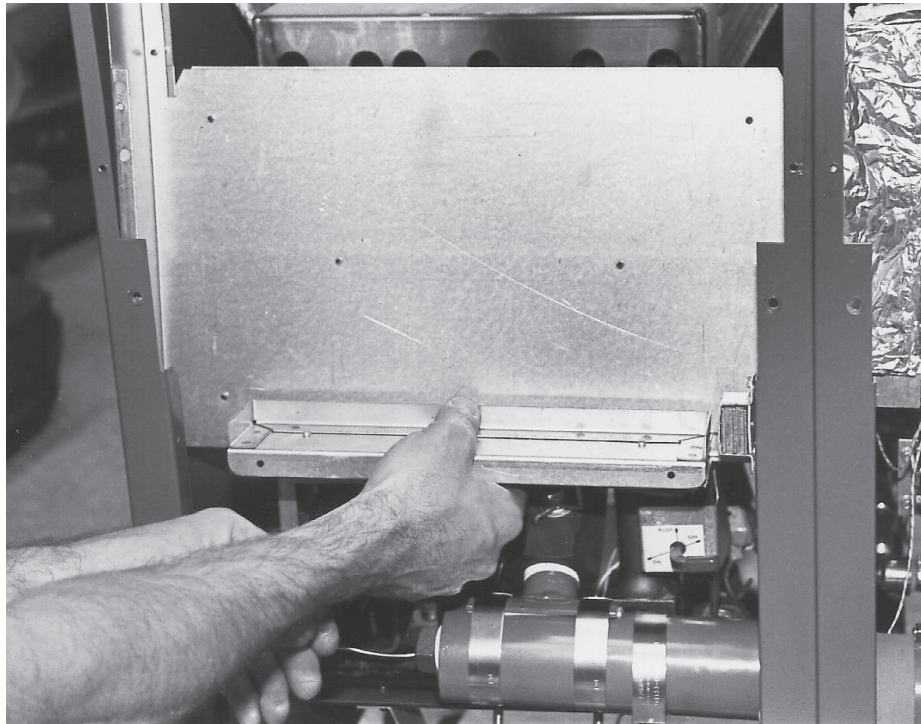

Fig. 29
5. Slide the control housing heat shield down. (Fig. 29)
4. Slide the control housing heat shield down. (Fig. 29)